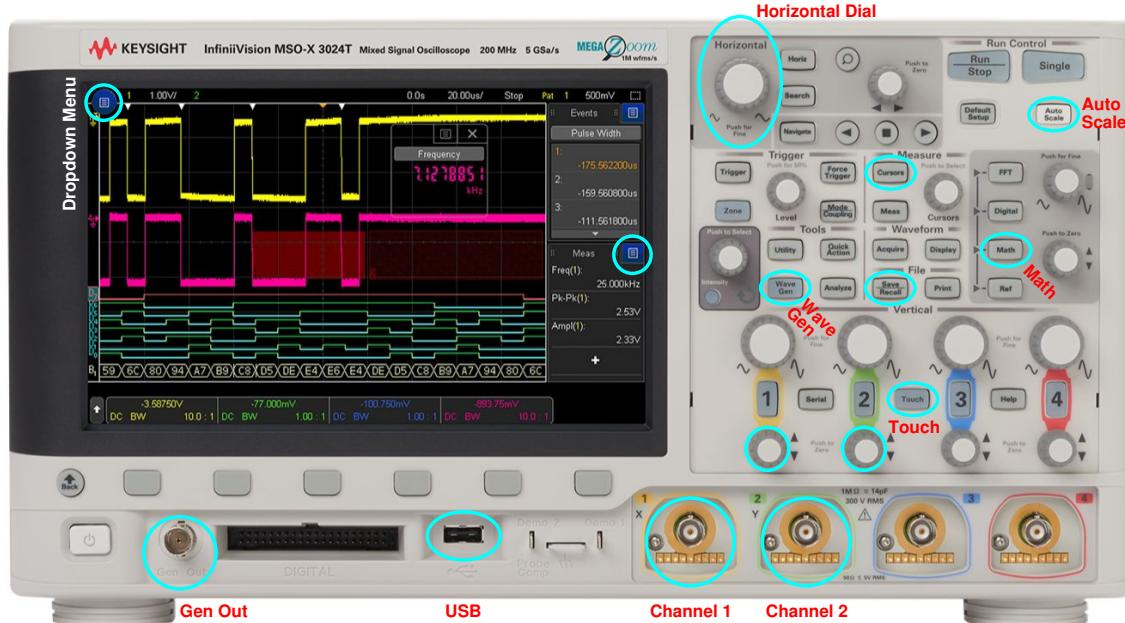

Figure 19: Keysight MSO-X 3024T oscilloscope front view
- Make sure "Touch" is activated, then touch the dropdown menu on the top left corner (see Fig. 19)
- Make sure "Touch" is activated, then push the "Wave Gen" button (see Fig. 19)
- Make sure "Touch" is activated, then push the "Math" button (see Fig. 19)
- Make sure you display sufficient number of periods for accurate computation; the number of periods can be adjusted by turning the "Horizontal Dial" in Fig. 19